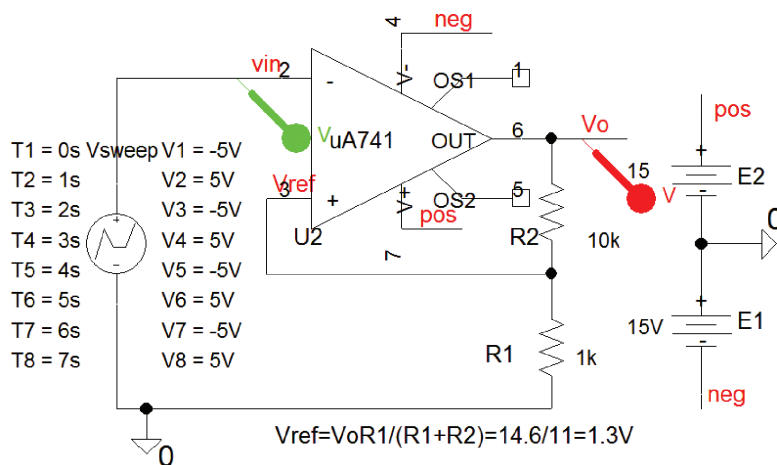
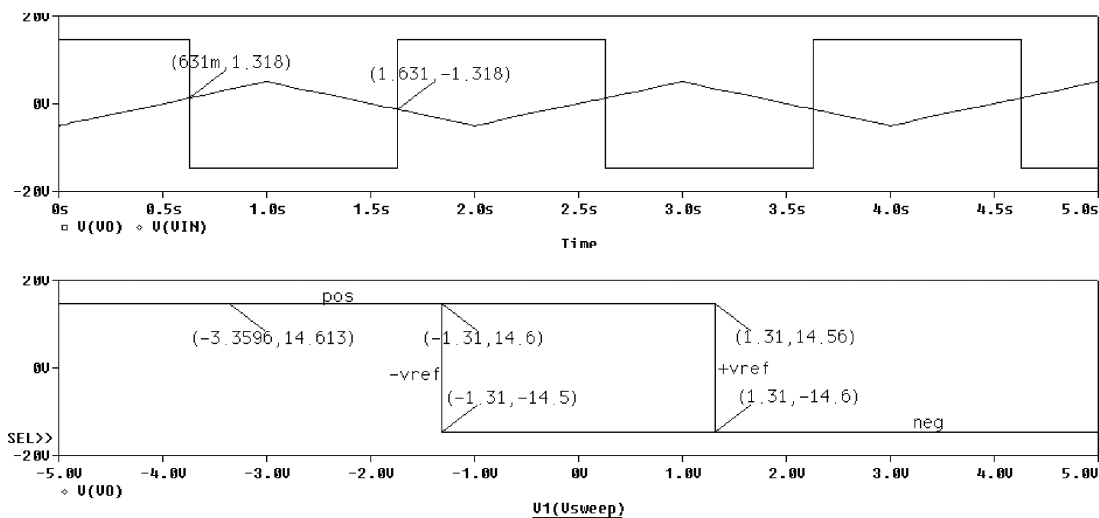
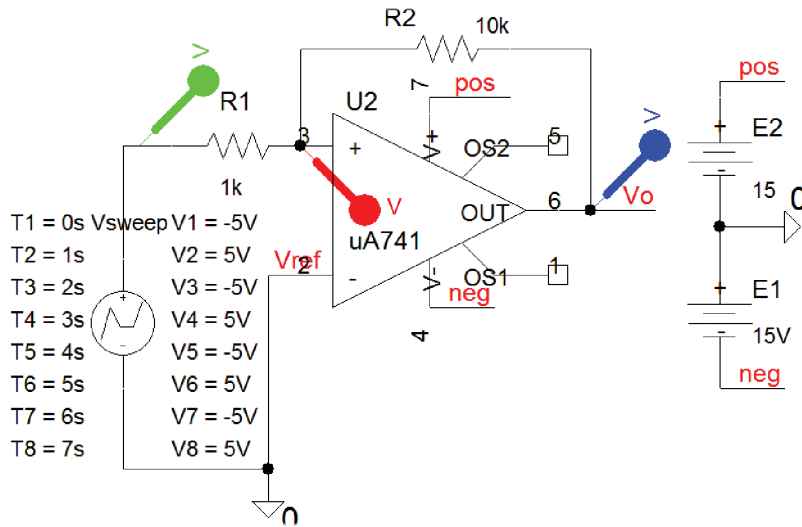
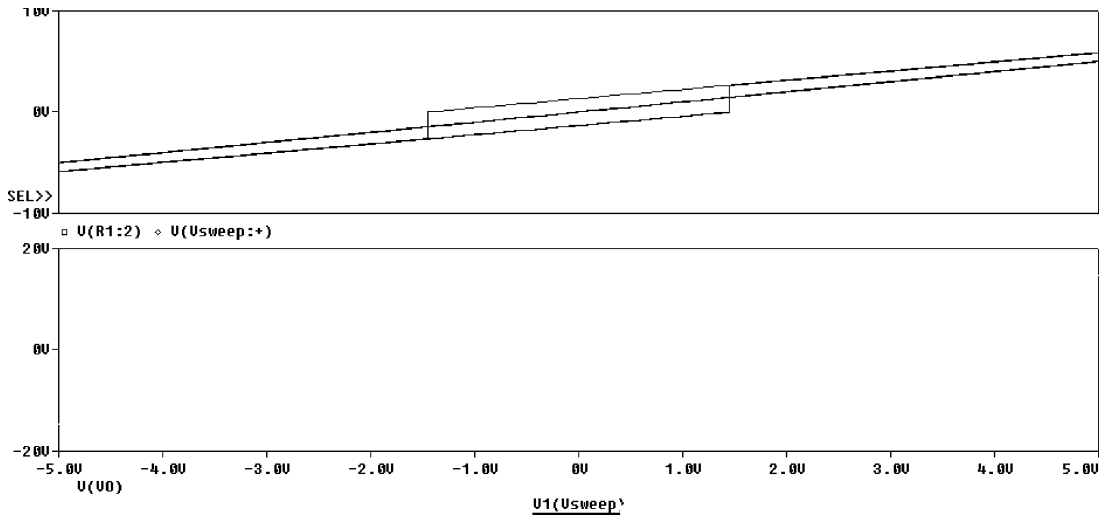

FIGURE 8.33: Schmitt-trigger circuit
FIGURE 8.34: Schmitt trigger hysteresis
FIGURE 8.35: Schmitt trigger
FIGURE 8.36:
- (4) Investigate the Schmitt trigger circuit shown in Fig. 8.33. A VPWL part generates a saw-toothed signal to sweep the input.
Vin, and press **Alt PP** for a new upper plot axis in time as in Fig. 8.34 (select the **Plot/Unsynchronize X-Axis** menu for the upper plot). This is equivalent to changing the oscilloscope time base to the $X-Y$ mode and connecting a triangle wave from a function generator to the x -plates. Modify Fig. 8.33 to produce the circuit in Fig. 8.35. The hysteresis diagram shown in Fig. 8.36 is now plotted in the reverse direction when compared to Fig. 8.34. Add a noise generator in series with vsweep to verify the effectiveness of hysteresis.